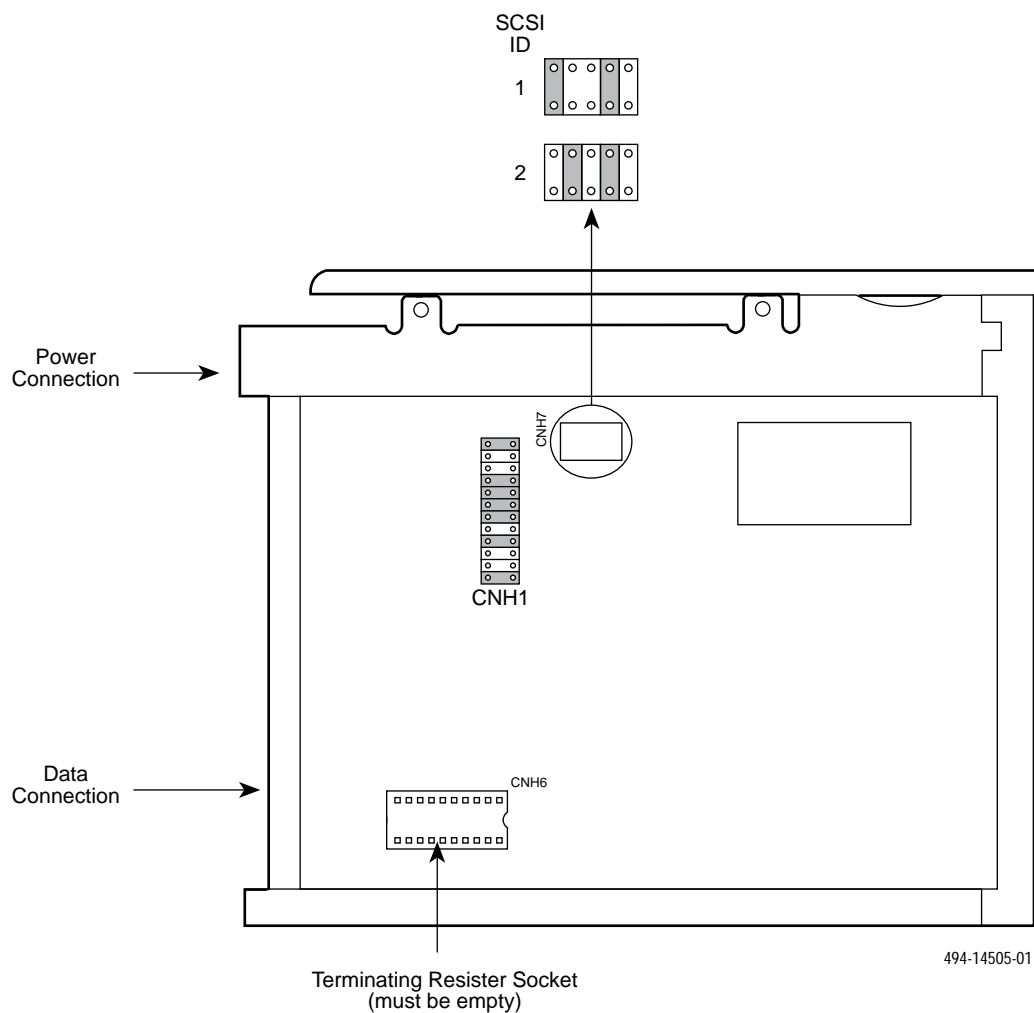

Figure 2-4. Second and Third Hard Disk Jumper Settings
To prepare the third hard disk for installation on the System 5000, refer to Figure 2-4 and perform the following steps:
2. Locate the jumper switch block marked as CHN1 and set the jumpers as shown in Figure 2-4.
3. Locate the jumper switch block marked as CHN7 and set the jumpers as shown in Figure 2-4. The CHN7 switch block must set the drive's SCSI ID to 2.